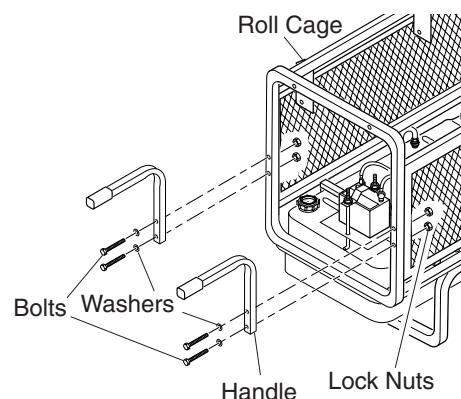

Figure 7 – Attaching Handles to Roll Cage
1. Remove the two bolts, lock nuts, and washers holding side panels to control panel end of roll cage. Insert bolts with washers through two holes in the handle and then back through roll cage and side screen panels (See Figure 7). Tighten the lock nuts against the side screen panels.